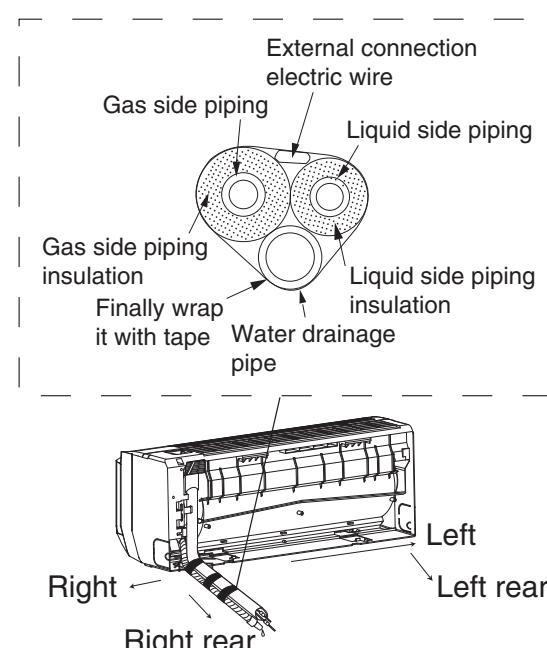

Fig.21
- Take out the piping from body case, wrap the piping, electric wire, water pipe with tape and push them through the piping hole. (As show in Fig.21)
- Connect the refrigerant tubing to the outdoor unit. (After performing a leak test on the connecting part, insulate it with the tubing insulation. (Fig.21) Also, refer to Pg 29, (connecting tubing between indoor and outdoor unit).